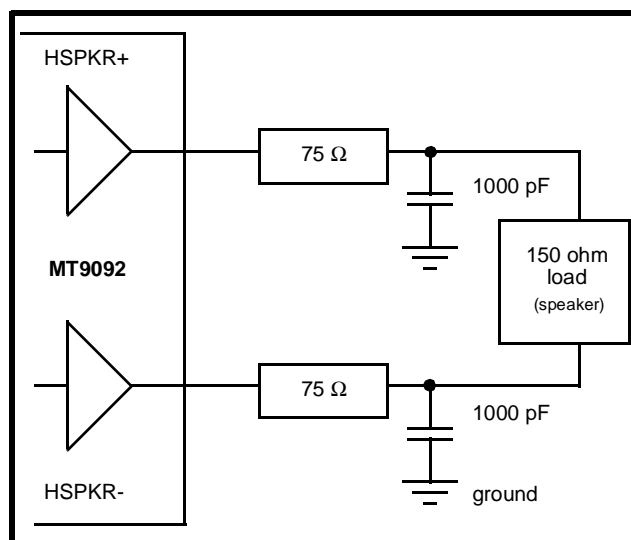

Figure 5- Handset Speaker Driver
- ◆ The handset speaker outputs (receiver), pins HSPKR+/HSPKR-. This internally compensated, fully differential output driver is capable of driving the load shown in Figure 5. This output is enabled/disabled by the HSSPKR EN bit residing in the Transducer Control Register (address 0Eh). The nominal handset receive path gain may be adjusted to either -12.3dB (suggested for μ -Law) or -9.7dB (suggested for A-Law). Control of this gain is provided by the RxA/ \bar{u} control bit (General Control Register, address 0Fh). This gain adjustment is in addition to the programmable gain provided by the receive filter and DSP.